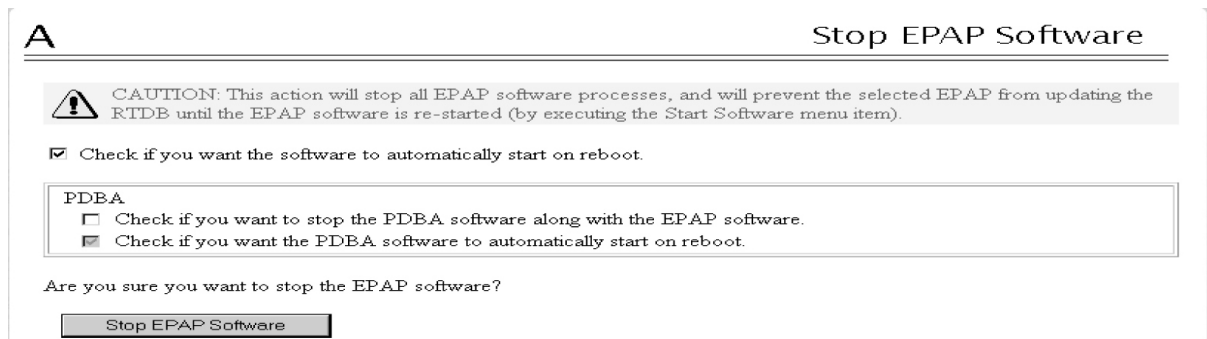

Figure 63: Stop Software Confirmation
The screen shown in Figure 63: Stop Software Confirmation appears:
4. On the **Stop EPAP Software** screen, make sure that appropriate check boxes are checked as shown in Figure 63: Stop Software Confirmation.